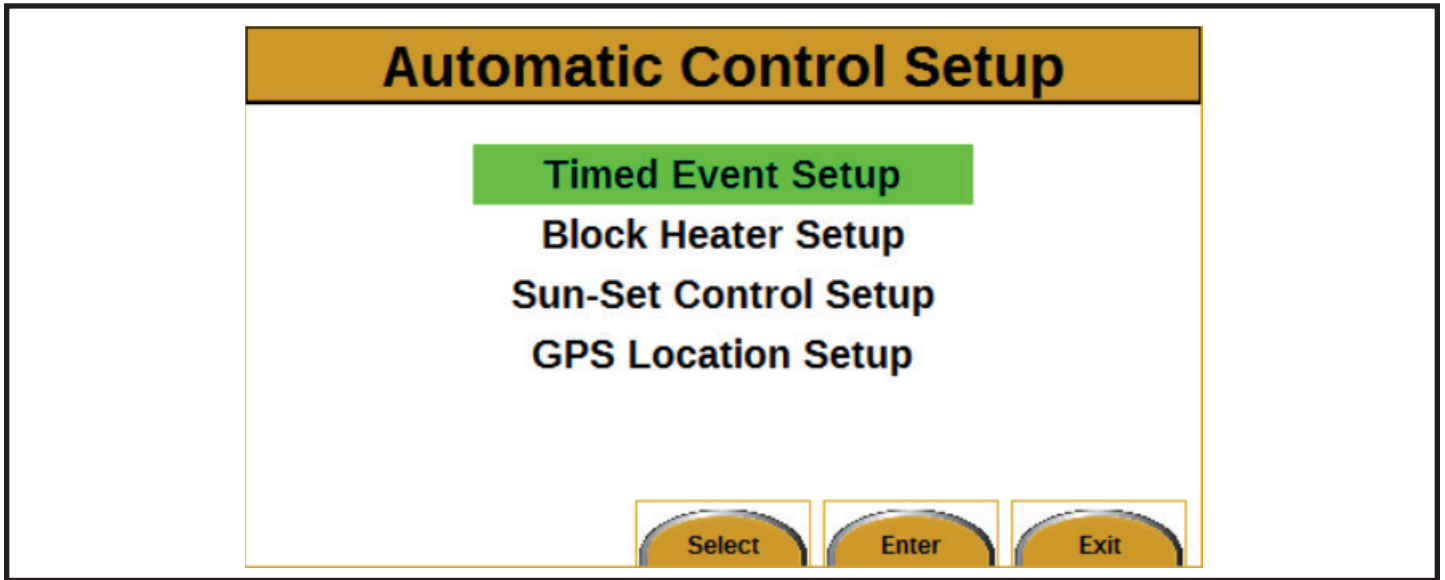

Figure 5
2. Press the Enter button. The Automatic Control Setup screen will appear (see Figure 5).